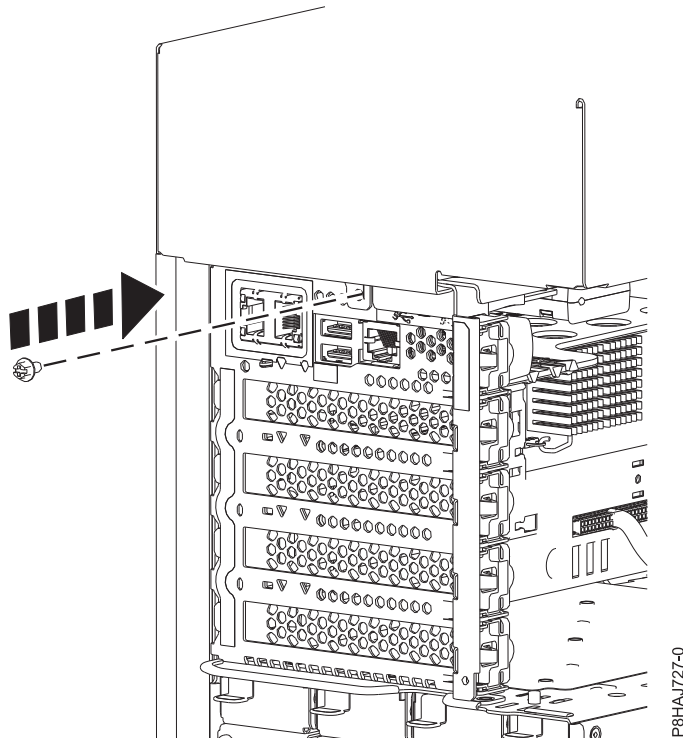

Figure 26. Installing the 8286-41A side cover screw
5. Install the side cover rear screw with a Phillips screwdriver as shown in Figure 26 on page 42.